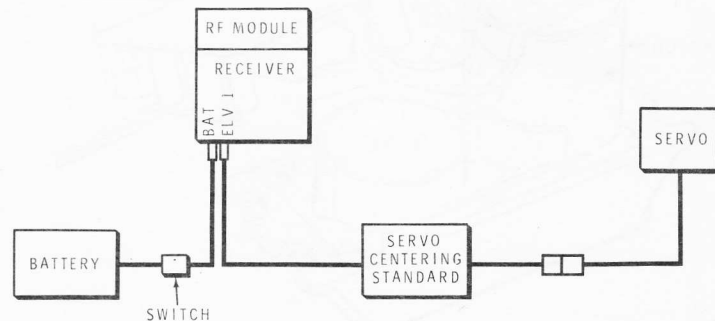

Figure 6
- () Connect the Servo to your receiver through the Servo Centering Standard (supplied with the transmitter) as shown in Figure 6.